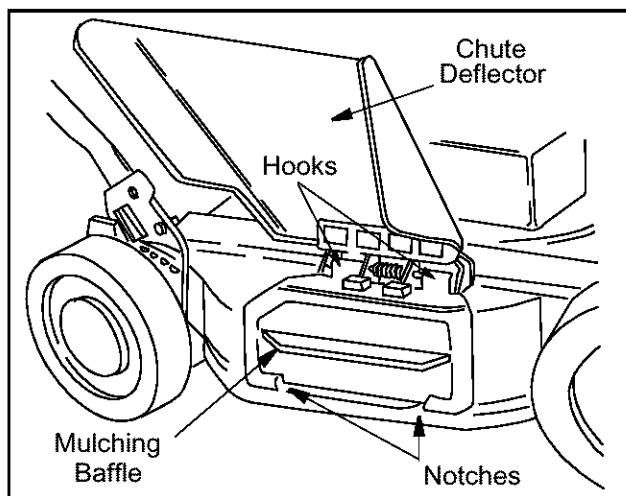

Figure 7
- Lift the chute deflector on the mower. Slide the notches in the bottom of the mulching baffle over the lip of the discharge opening. See Figure 7.